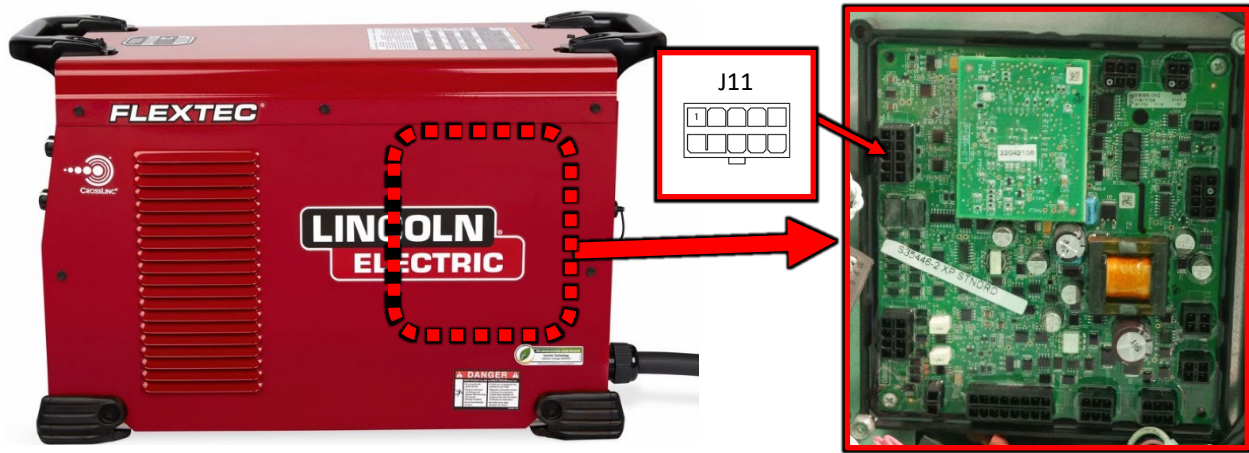

Figure F.2
A.2. Perform the measurements identified in Test Table 1 below, refer to Figure F.2 for test point locations.